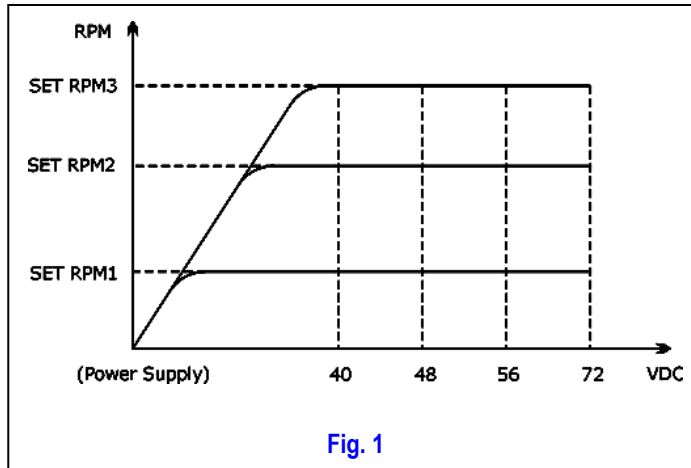

Fig. 1
2. By external resistor reduce the RPM to the desired speed level. (See Fig. 1)